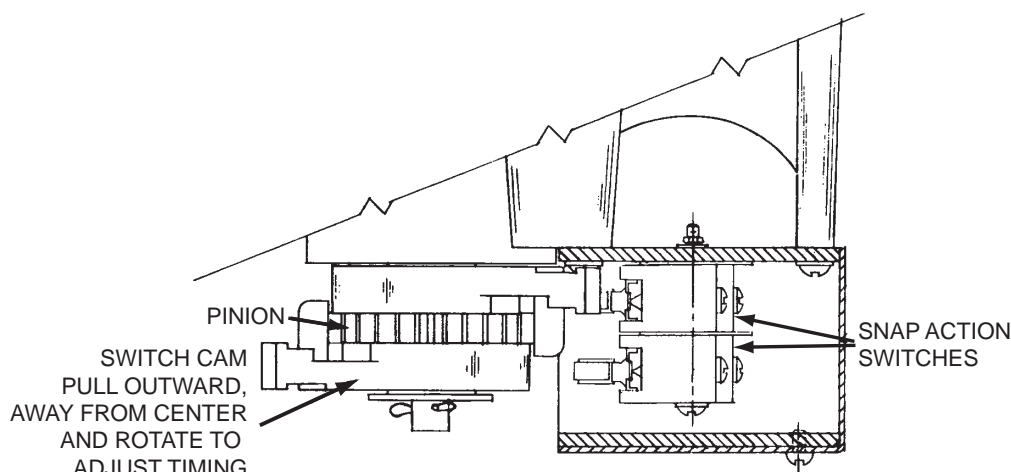
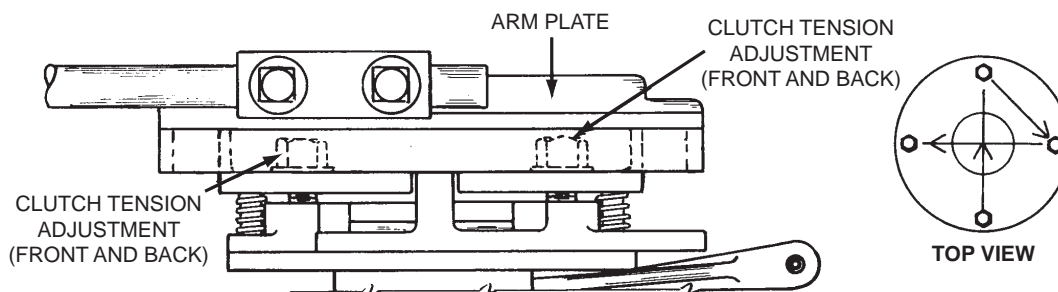

Figure 6. Adjusting Limit Switch
Figure 7. Adjusting Clutch
(1) Release the arm plate by pulling down on the clutch release chain located on the side of the Operator. To keep the arm plate disengaged, insert a wedge of some sort between the clutch yoke the chain is connected to and the bottom of the clutch. Check to see if the arm plate is free to rotate. (See Figure 7).
(1) Loosen the four clutch tension bolts and then set the arm plate back into place on the clutch. Do not replace any other items at this time.
(2) To adjust the limit switch, (Figure 6), manually open the gate to within 6 inches of its fully open position, at the same time allowing the clutch to slip. At this point, determine which snap action switch would shut the operator off. Pull outward on the cam in line with that switch and rotate it toward the switch and over it just far enough to shut the operator off. The cam must be rotated in the same direction as the crank arm is rotated to open the gate. The cam should also be reengaged with the center pinion at this point.
(3) Manually close the gate to within 6 inches of its fully closed position. Pull outward on the other cam and rotated toward a slightly over the other snap action switch. The cam must be rotated in the same direction as the crank arm is rotated to close the gate and must be reengaged with the center pinion.
I. SETTING THE CLUTCH (Figure 7)
(1) Remove the arm plate and tighten down the four clutch tension bolts evenly (see Figure 7) until the friction is sufficient to operate the gate. Never tighten the bolts so that the clutch cannot be slipped by forcing the end of the crank arm, and never 1 just bolts consecutively, but always directly across from each other so as to